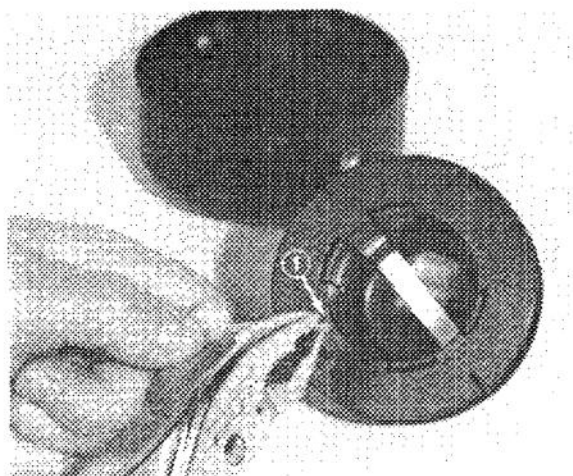

Figure 41
**Note:** Pinch line with pliers approximately 1/8 in. (3 mm) from end to assist installation into grooved notch (Fig. 41). Clean drum area and inspect for damaged or worn parts before assembly.